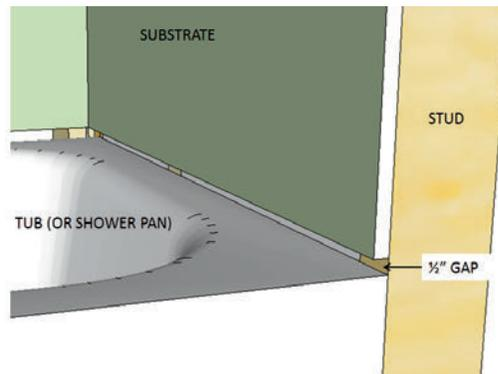

Figure 3
- For wet applications, be sure that there is a  $\frac{1}{2}$ " gap between the bottom of the substrate and the upper horizontal surface of the tub or shower pan. (See Figure 3)